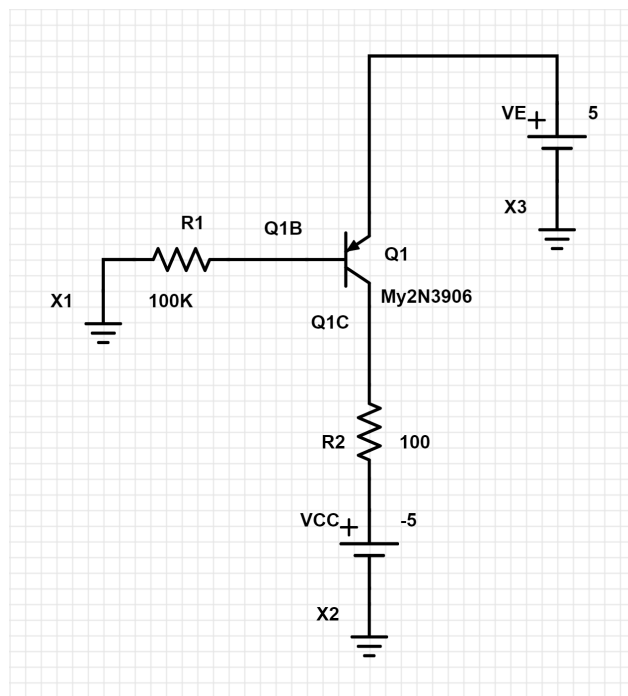

Fig. 3 The schematic diagram for the DC characterization of a PNP-BJT 2N3906
- 2.1 In Avenue to Learn, *Lab 1: Device Characterization and Biasing Circuits*, follow Video 2.1 to Video 2.3 to prepare the circuit diagram shown in Fig. 3 to characterize a PNP-BJT 2N3906.